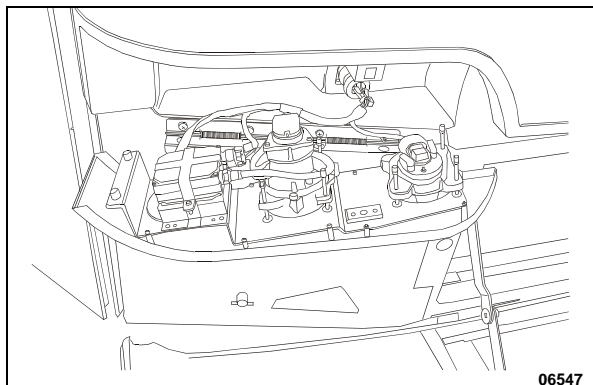

FIGURE 52: OPENING HEADLIGHT ASSEMBLY
Aiming can be performed without opening headlight assembly. Horizontal and vertical aiming of each module is provided by two adjusting screws that pivot the module in the housing for proper alignment (Figure 52).
2. Remove the headlight screw fixing the headlight assembly, then tilt headlight assembly down (Figure 52).
- Remove the screw fixing the headlight assembly, then tilt headlight assembly down (Figure 52).
- Remove the headlight screw fixing the headlight assembly, then tilt headlight assembly down (Figure 52).